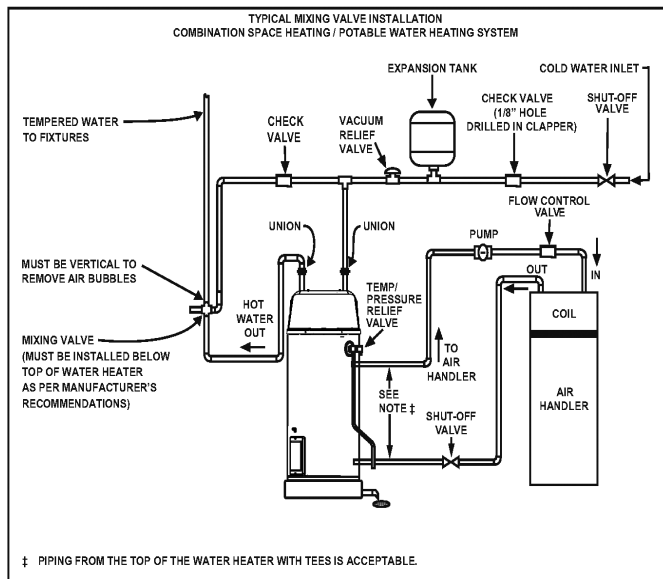
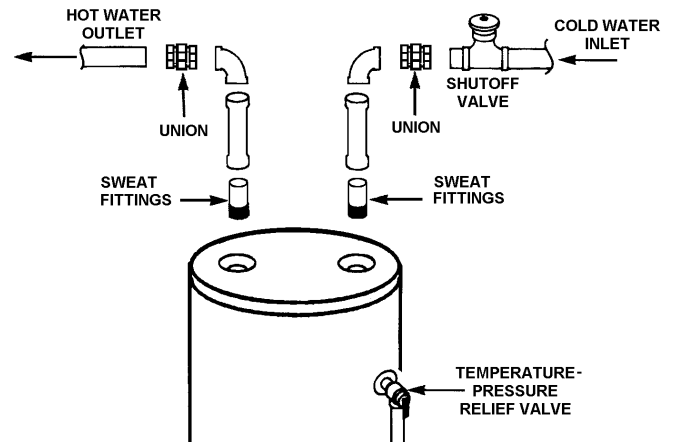

Figure: 10
Figure: 11
Your water heater is equipped with inlet/outlet connections for use in space heating applications (see Figure 10). If this water heater is to be used to supply both space heating and potable (drinking) water, the instructions listed below must be followed:
**NOTE:** To protect against untimely corrosion of hot and cold water fittings, it is strongly recommended that di-electric unions or couplings be installed on this water heater when connected to copper pipe, see Figure 11 also.
Figure 10 and Figure 11 show the typical attachment of the water piping to the water heater. The water heater is equipped with 3/4 inch NPT water connections for 50 gallon unit and 1 inch NPT water connections for 75 gallon unit..